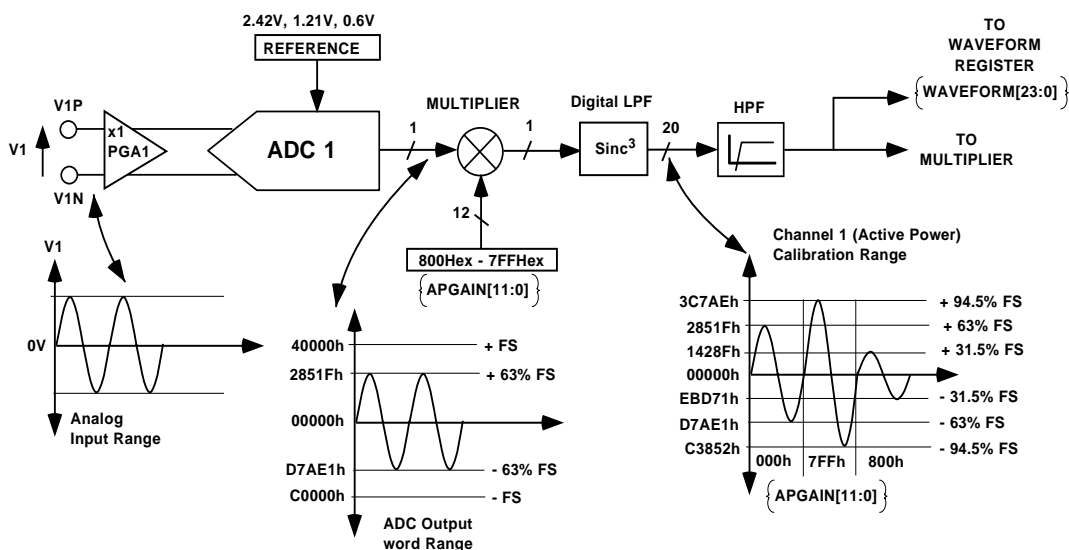

Figure 22—ADC and signal processing in Channel 1
Figure 22 shows the ADC and signal processing chain for Channel 1. In waveform sampling mode the ADC outputs a signed 2's Complement 20-bit data word at a maximum of 27.9kSPS (3.579545MHz/128). The output of the ADC can be scaled by  $\pm 50\%$  to perform an overall power calibration or to calibrate the ADC output. While the ADC outputs a 20-bit 2's complement value the maximum full-scale positive value from the ADC is limited to 40000h (+262,144 Decimal). The maximum full-scale negative value is limited to C0000h (-262,144 Decimal). If the analog inputs are over-ranged, the ADC output code will clamp at these values. With the specified full scale analog input signal of 1V (or 0.5V or 0.25V – see *Analog*
*Inputs* section) the ADC will produce an output code which is approximately 63% of its full-scale value. This is illustrated in Figure 22. The diagram in Figure 22 shows a full-scale voltage signal being applied to the differential inputs V1P and V1N. The ADC output swings between D7AE1h (-165,151) and 2851Fh (+165,151). This is approximately 63% of the full-scale value 40000h (262,144). Over-ranging the analog inputs with more than 1V differential (0.5 or 0.25, depending on Channel 1 full scale selection) will cause the ADC outputs to increase towards its full scale value. However for specified operation the differential signal on the analog inputs should not exceed the recommended value.
For example when 7FFh is written to the Active Power Gain register the ADC output is scaled up by 50%. 7FFh = 2047 Dec,  $2047/2^{12} = 0.5$ . Similarly, 800h = -2047 Dec (signed 2's Complement) and ADC output is scaled by -50%. These two examples are illustrated graphically in Figure 22.